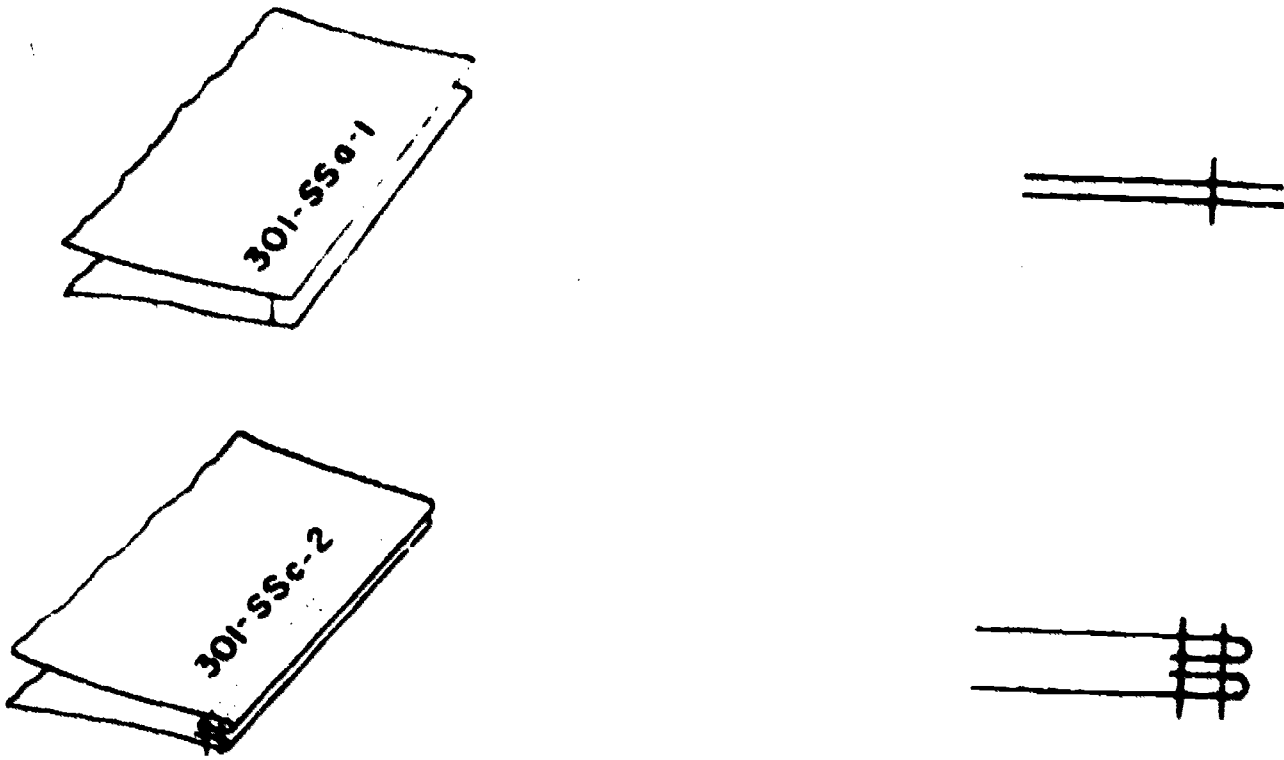

Figure 6. Types of Superimposed Seams with Cross-Sectional Views.
2. Sew two (2) of each of the seams illustrated in figures 6, 7, and 8.